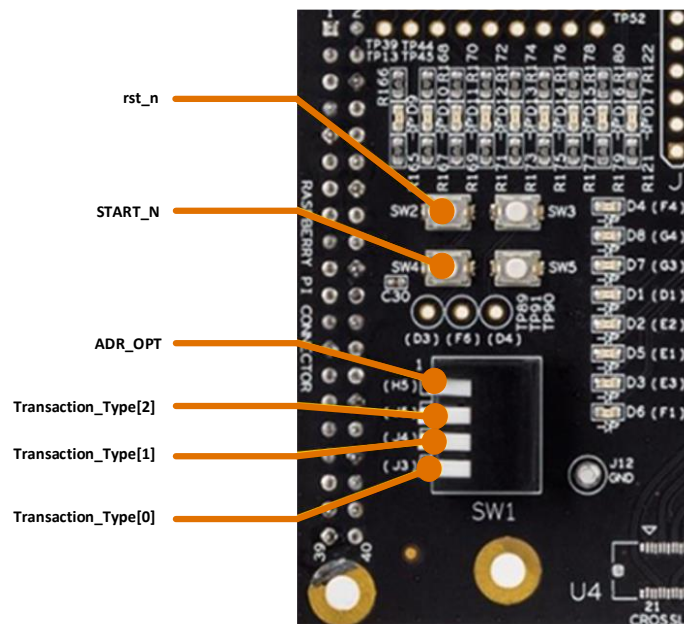

Figure 6.2. SPI Master Control Switches
3. Using Figure 6.2 and Table 6.1 as a guide, put ADR_OPT switch to 0 (down) so that the SPI Master uses SS_N[0] during a SPI transaction.
4. Using Figure 6.2 and Table 6.2 as a guide, select the desired transaction type and press START_N until a SPI transaction is registered in the logic analyser as shown in Figure 6.3, Figure 6.4, Figure 6.5, Figure 6.6, and Figure 6.7.